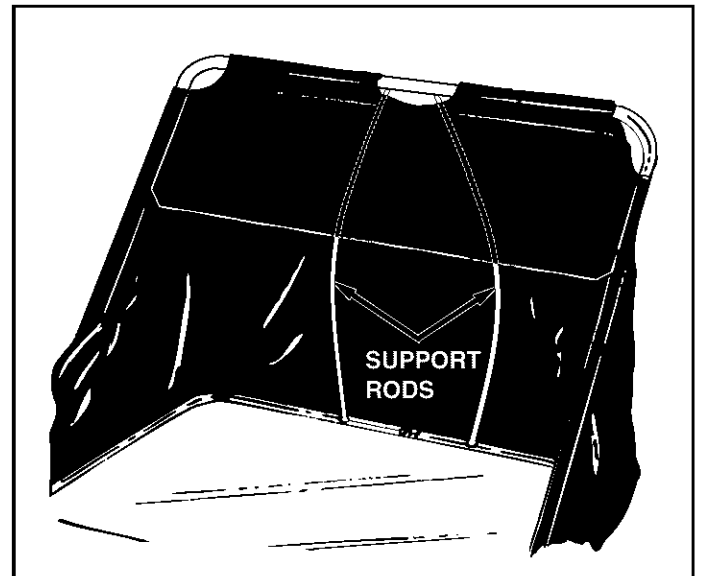

FIGURE 15
- Assemble the two hopper support rods as shown in figure 15. Place the ends of the rods into the upper and lower hopper tubes, bending the rod just enough to fit into the holes in the tubes.